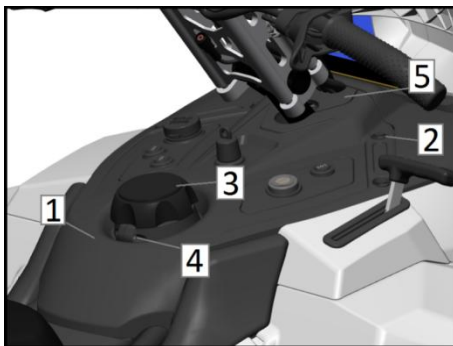

Fig. 2
1. Use a puller to take out 4 air extraction clamps (position 2, figure 2).
2. Remove the fuel tank cap (position 3, figure 2).
3. Remove the fixing hoop with a 4mm hexagon (pose 4, figure 2).
4. Remove the back of the head plate (pose 1, figure 2).